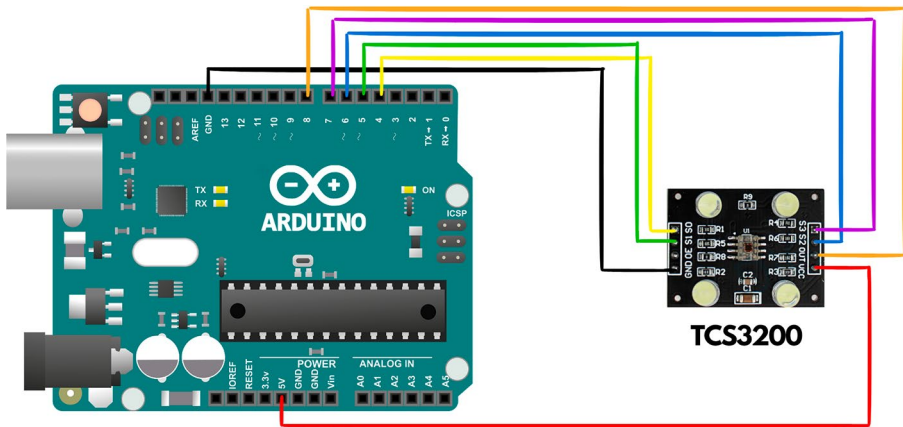

Figure 2-3. *Wiring of TCS3200 color sensor*
- Any microcontroller with an external TCS3200 sensor (see Figure 2-3). This sensor has four control pins (S0/S1 for frequency scaling, S2/S3 for color) that need to be connected to digital output pins and one output pin for the detected signal (to be read using the `pulseIn` function).